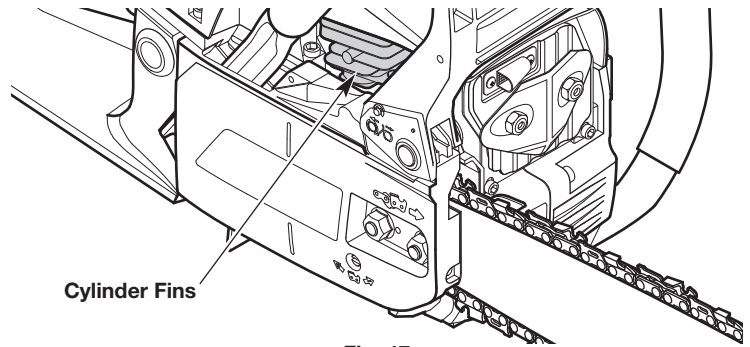

Fig. 47
4. Use compressed air, up to 40 PSI, to blow debris from the cylinder fins (Fig. 47). The cylinder fins must be cleaned on a regular basis to reduce the risk of personal injury or damage to the unit as a result of fire. Always use safety goggles/glasses when using compressed air. Do not use water or other liquids to clean the cylinder fins. Use a small wire brush to remove stubborn debris. If a significant amount of debris remains, have the unit cleaned by an authorized service dealer.